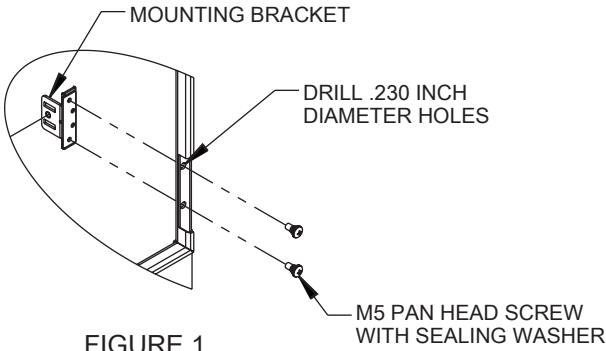

FIGURE 1
1. Using center punch locations on the enclosure body flange, drill four (4) .203 inch diameter holes.
2. Install the hinge mounting brackets as shown in Figure 1. Torque M4 pan head screws to 22 in-lbs (2.5 Nm).